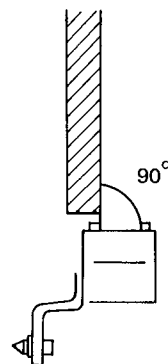

FIGURE 3
- (2) Make the mechanical assembly stand and adjust screw (B) as shown in figure 3.